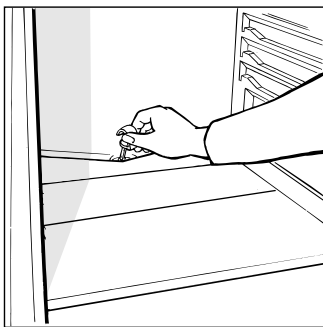

Fig. 2
This appliance defrosts automatically and the water is channelled to the back toward the drain installed for this purpose (fig. 2). Here, the heat produced by the compressor will make it evaporate. The only thing you must do is to periodically check and clean the hole of the drain, which is located behind the fruit and vegetable crisper, so that the water drains properly.
- The defrost drain is clear from any blockage (see fig.2).